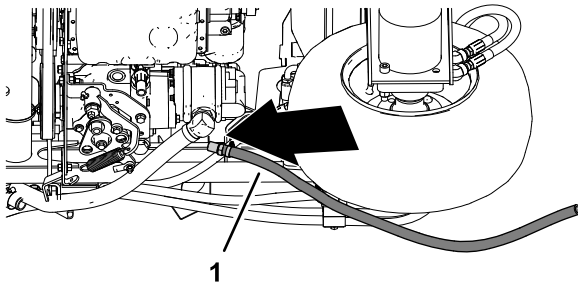

Figure 48
1. At the bottom of the machine, align the oil cooler return hose to the right frame channel as shown in Figure 48.